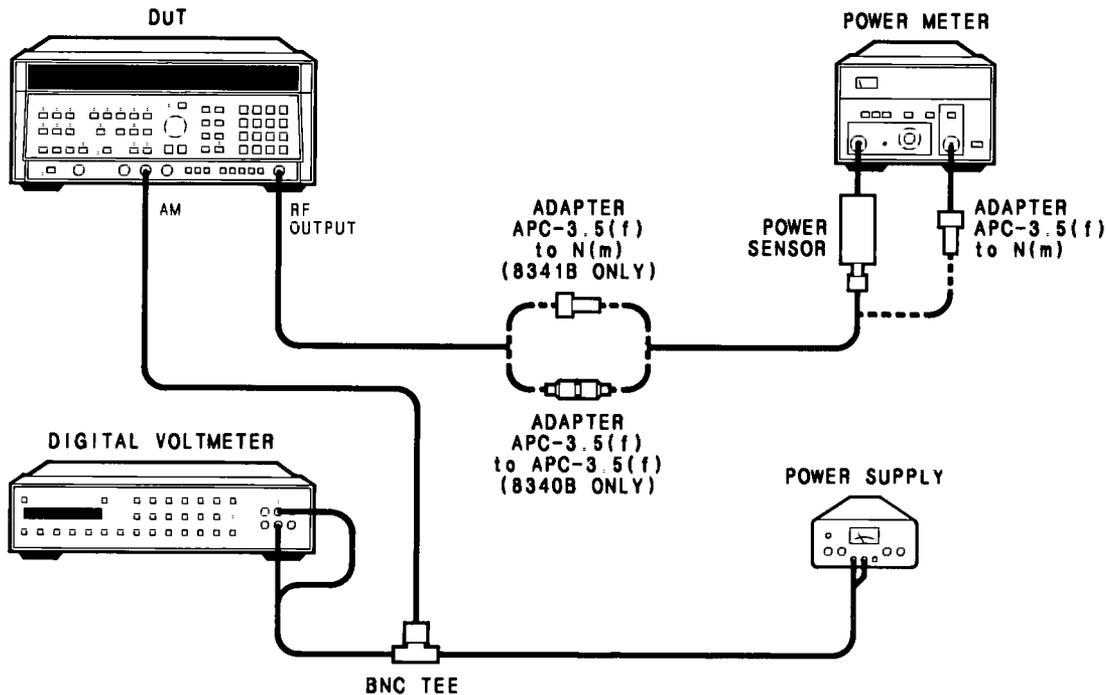

Figure 5-50. AM GAIN Adjustment Test Setup
28. Set up the following equipment as shown in Figure 5-50 with the power supply set to 0 Vdc. Allow the equipment to warm up for at least 30 minutes